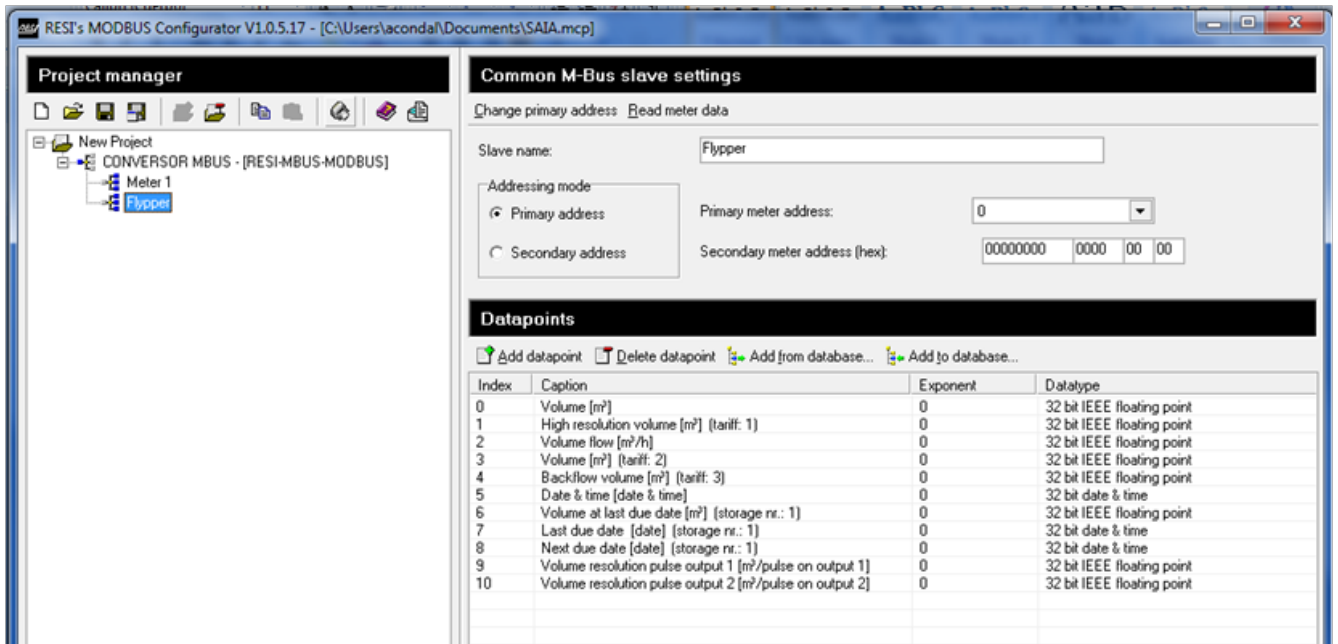

Figure 13: M-BUS slave unit added to the project
2.- Select the unit from the list and click **OK** to add it to the project as a M-BUS slave unit. (**Figure 13**)